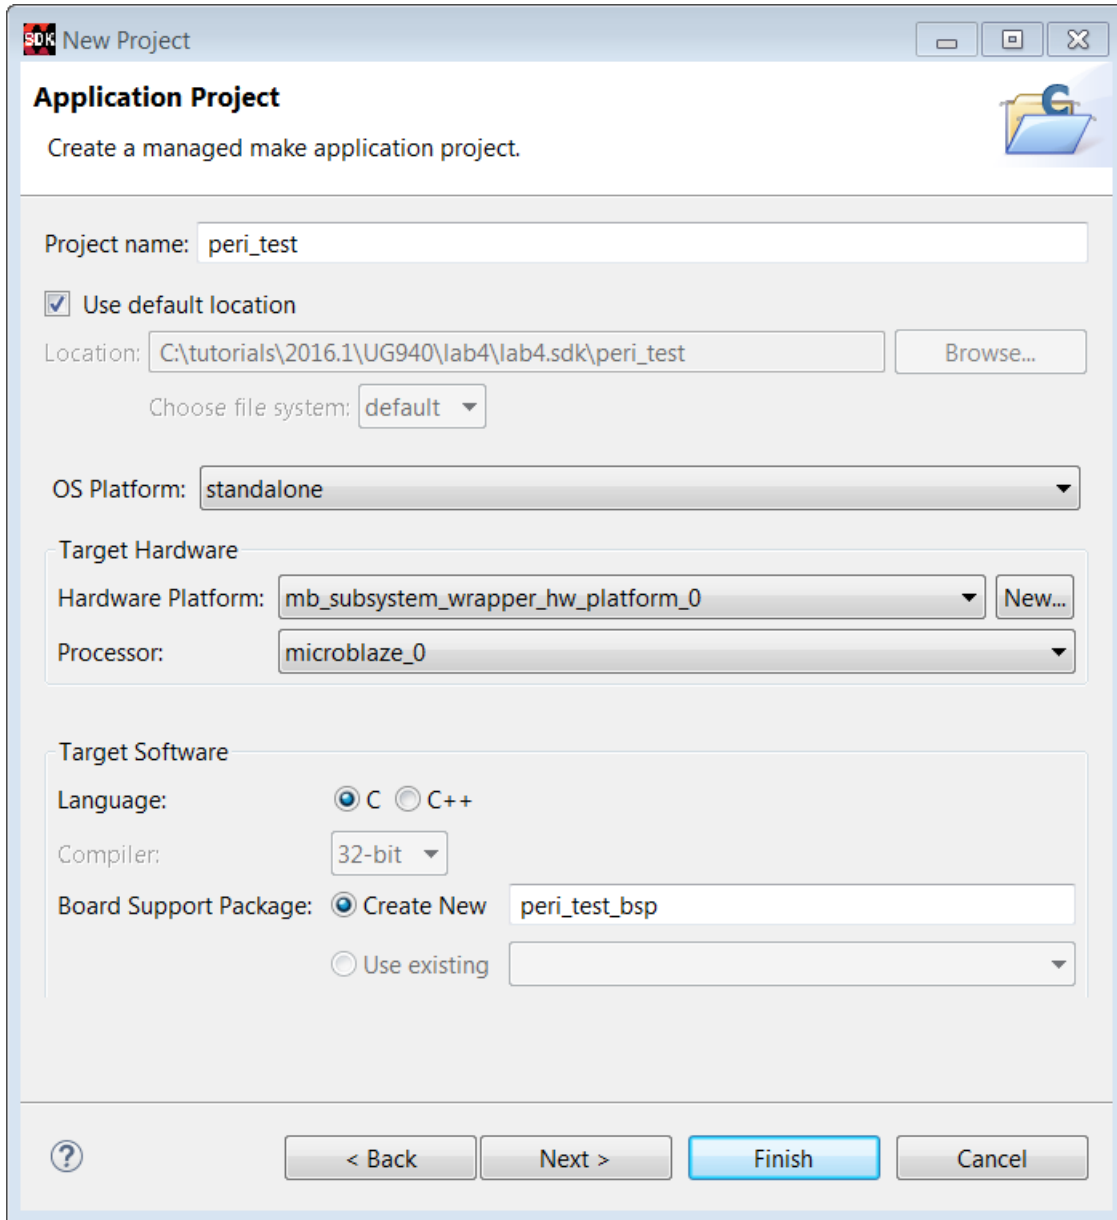

Figure 113: New Project: Application Project Wizard
4. Type a name (such as `peri_test`) for your project and choose standalone as the OS platform, as displayed below in Figure 113.